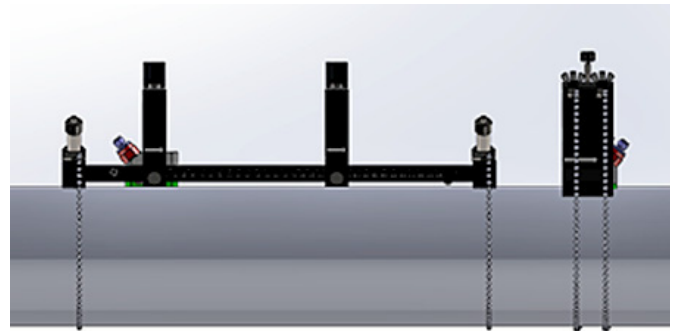

Figure 42: Completed installation (top view)
- Tighten the yoke screw until the transducer firmly contacts the pipe. Your completed odd-traverse installation should look like *Figure 42* below.